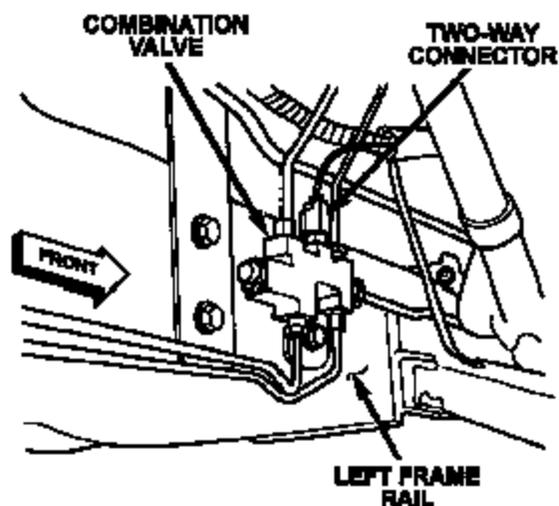

Figure 1
2. Disconnect the two-way wiring connector on the brake combination valve (Figure 1).